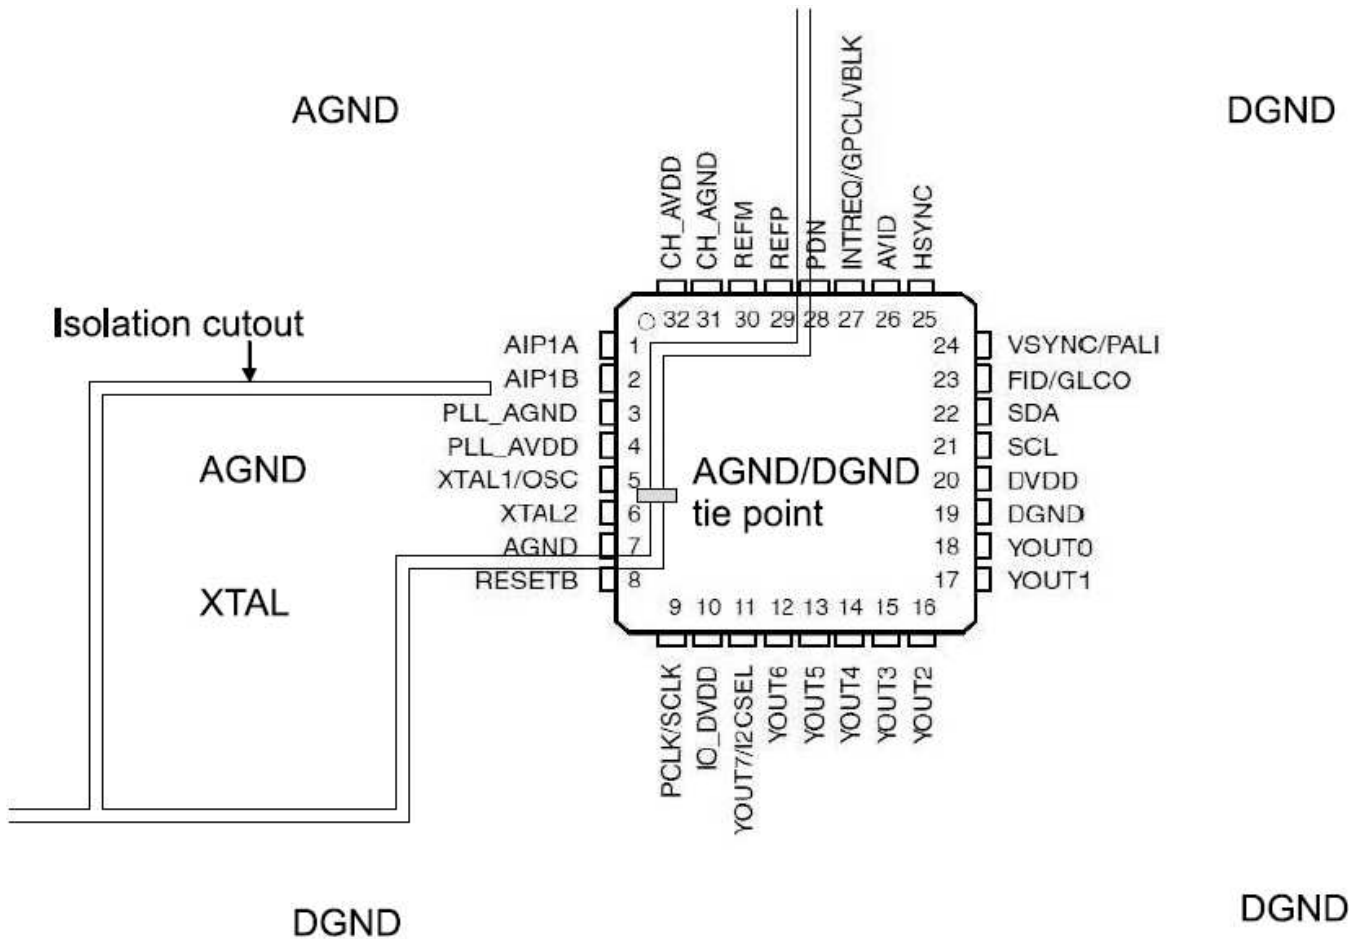

Figure 1. Split Ground Planes (TQFP Package)
- If a split ground plane (AGND/DGND) approach is used for board layout, Figure 1 shows the recommendation for the split relative to device pins. If split ground plane approach is not used, a cutout/slot should still be placed around 14.31818-MHz crystal and associated circuitry as depicted in Figure 1 for improved isolation.